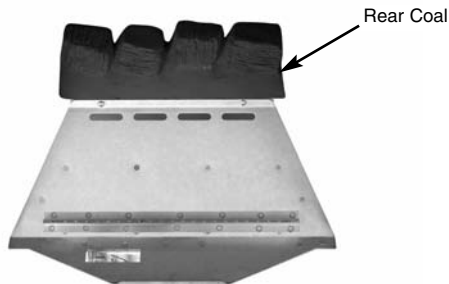

Fig. 49
1. Place the rear coal on the rear coal retainer ledge in a central position (Fig. 49).